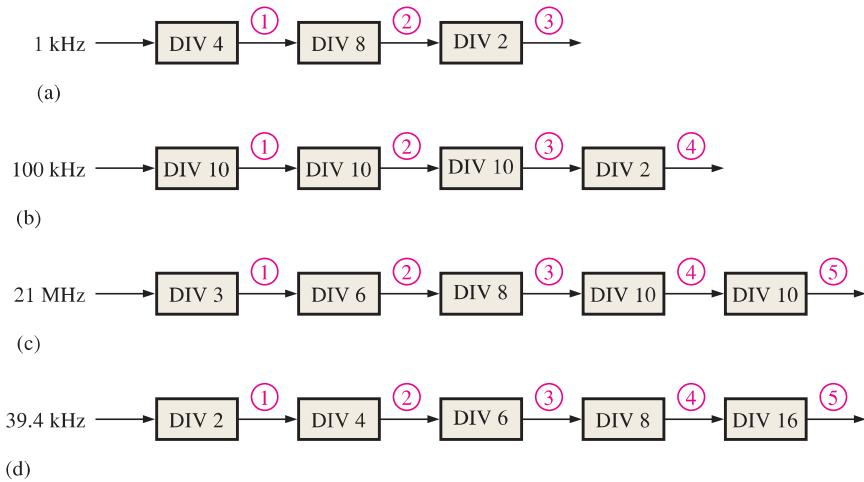

FIGURE 9–76
25. Expand the counter in Figure 9–38 to create a divide-by-10,000 counter and a divide-by-100,000 counter.